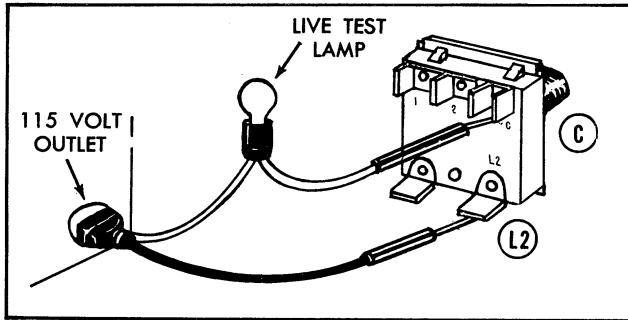

Figure 11
Control of the temperature is determined by the temperature selector switch. When the switch is in the NORMAL setting, the circuit encompasses the high heat thermostat, *Figure 11*. At the DELICATE position, the low temperature thermostat is in the circuit. In placing the control at AIR FLUFF, the dryer operates without heat. The temperature selector switch should not be serviced in the field.
3. With continuity tester, check continuity between L2 and C, there should be continuity only when the switch is in DELICATE position. *Figure 11*